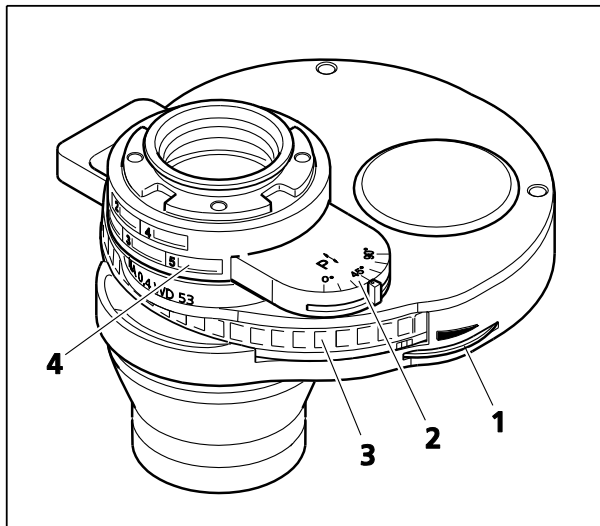

Fig. 2-15 LD Condenser 0.4 for H Ph PlasDIC DIC iHMC with Insertable Polarizer Slider DL, Rotatable 90 Degrees
- Condenser with an adjustable aperture diaphragm (Fig. 2-15/1) for the bright field position (position 1 of the modulator disk, while the aperture diaphragm is completely open for all the other positions of the modulator disk)
- Five-position modulator disk (Fig. 2-15/3) and slot for polarizer slider (Fig. 2-15/2)
- Spaces for stickers (Fig. 2-15/4) showing the designations of the slit diaphragms, phase stops or condenser modules installed